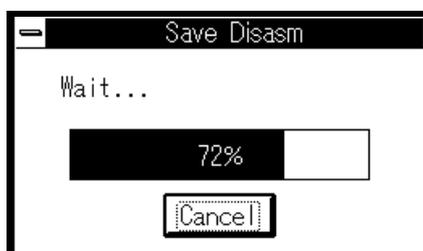

Figure 5-12 Example of dialog box displayed when saving disassembled result
- When you click on the OK button, PDB38M starts saving the disassembled result to your specified file. PDB38M brings up a dialog box like the one shown in Figure 5-12 when it is saving. This dialog box is automatically closed when PDB38M finishes saving.
- If the range of memory locations to be saved is large, PDB38M requires a large disk space and a long time. In such a case, you can stop saving memory contents by clicking on the Cancel button in the dialog box shown in Figure 5-12. In this case, a file is created for the memory contents immediately before you have stopped saving.